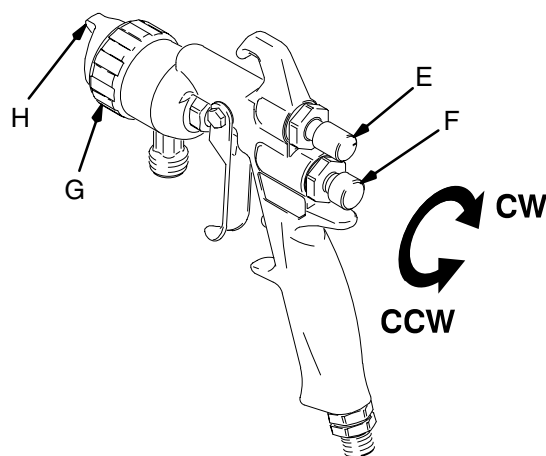

Fig. 2
See Fig. 2.
4. The fluid adjusting valve (F) is used in systems that do not have a fluid regulator. As this package includes a pressure pot regulator (33), use it to adjust fluid flow. Turn the valve (F) out until full trigger travel is obtained.
6. Loosen the air cap retaining ring (G) and rotate the horns (H) of the air cap to obtain the desired spray position. Tighten the retaining ring snugly, but do not over-tighten it. See Fig. 2 and 3.